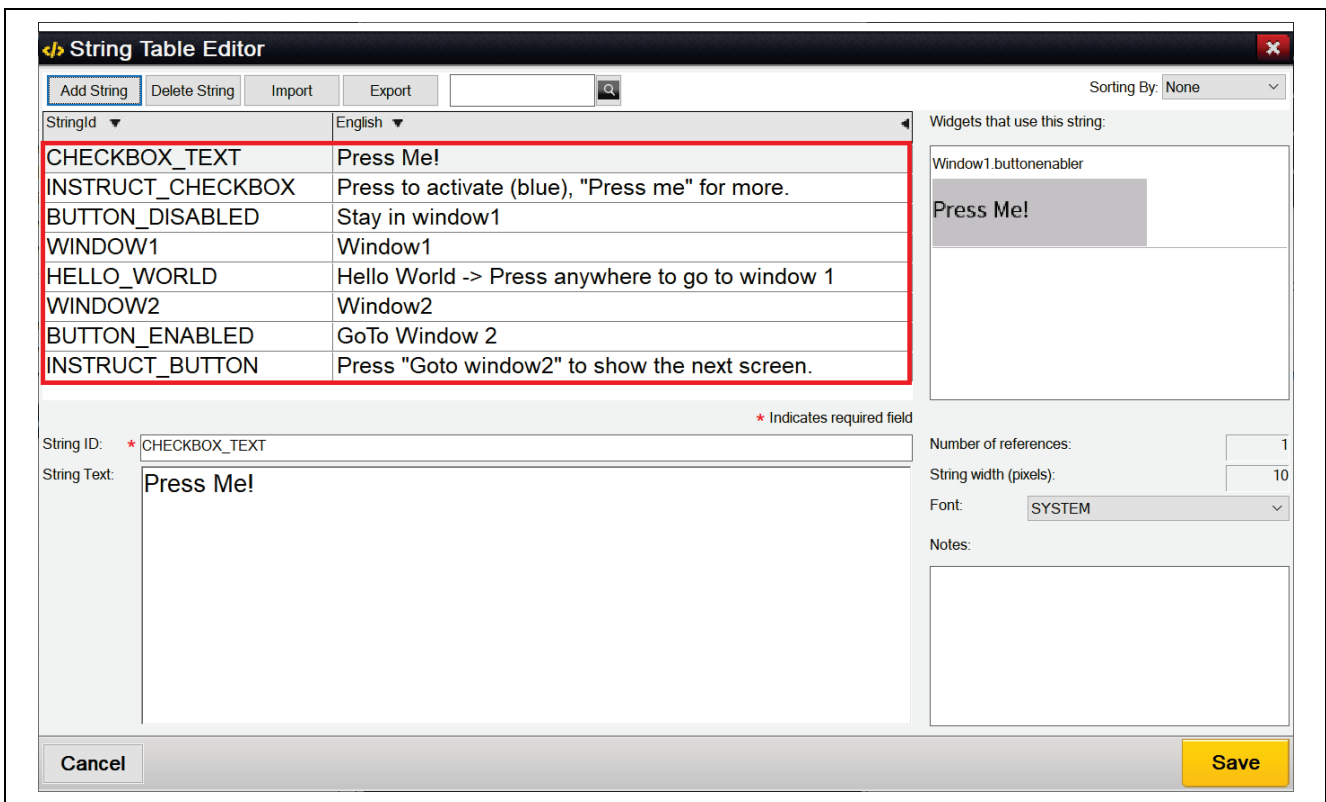

Figure 49. All Strings
- Continue to click **Add String**, and edit each new entry's corresponding **String ID** and **String Text** until the table appears like **Figure 49**. Then click the **Save** button.